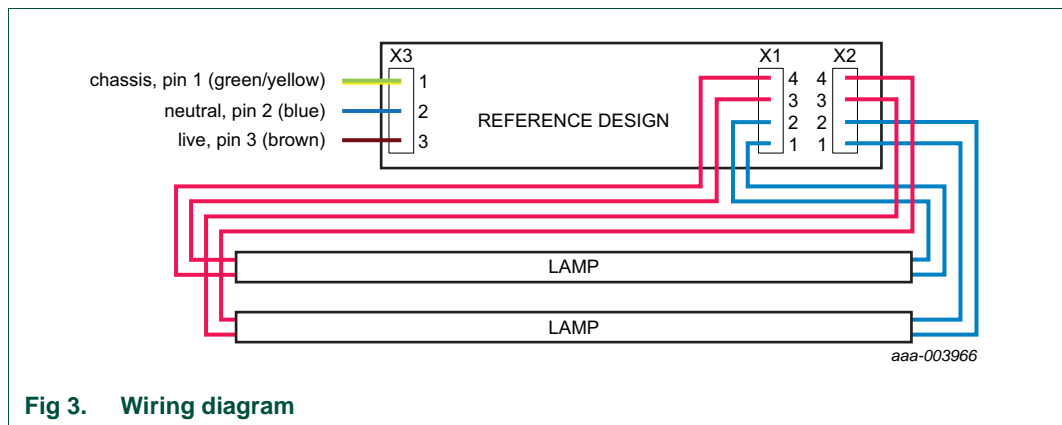

Fig 3. Wiring diagram
Connect the ballast as shown in Figure 3. Keep the wires connected to pins 1 and 2 of connector X1 and X2 short. One lamp connects to connector X1, the other lamp connects to connector X2. Connect the mains voltage of 230 V(AC) to pins 2 and 3 of connector X3.